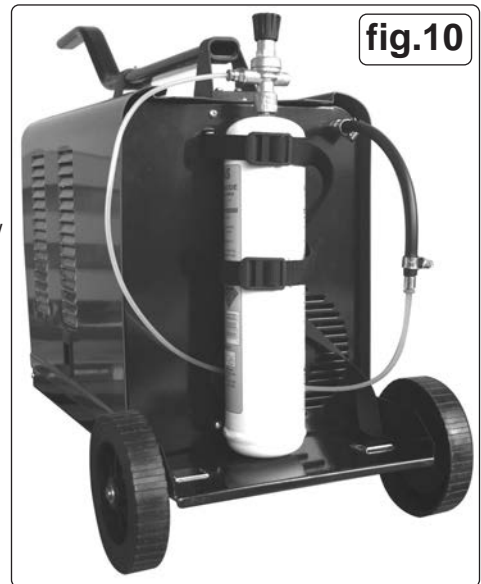

fig.10
For welding stainless steel or aluminium, this welder can be converted to a conventional mig welder. To convert to gas, order a reel of regular wire, a bottle of suitable gas, tips and nozzles and a conversion kit. Kit 120.802032 contains a regulator plus connection hoses, hose adaptor and jubilee clips (see fig.10).
8.5.1. Strap the gas cylinder to the back of the machine. Two nylon straps are provided to hold small cylinders in place. Thread the straps through the raised metal fixing loops on the back of the welder. Stand the gas cylinder on the rear platform and fix the straps around it as shown in fig.10.
8.6.1. Push the small adaptor into one end of the larger diameter hose. Push the other end of the hose onto the ribbed gas input connector on the back of the welder. Secure both ends of the hose with the jubilee clips provided. Push one end of the smaller diameter gas hose into the open end of the adaptor and push the other end into the regulator outlet, it will seal automatically. See fig10. To release the gas hose, press the collet inwards on the quick couplers and pull the hose out.